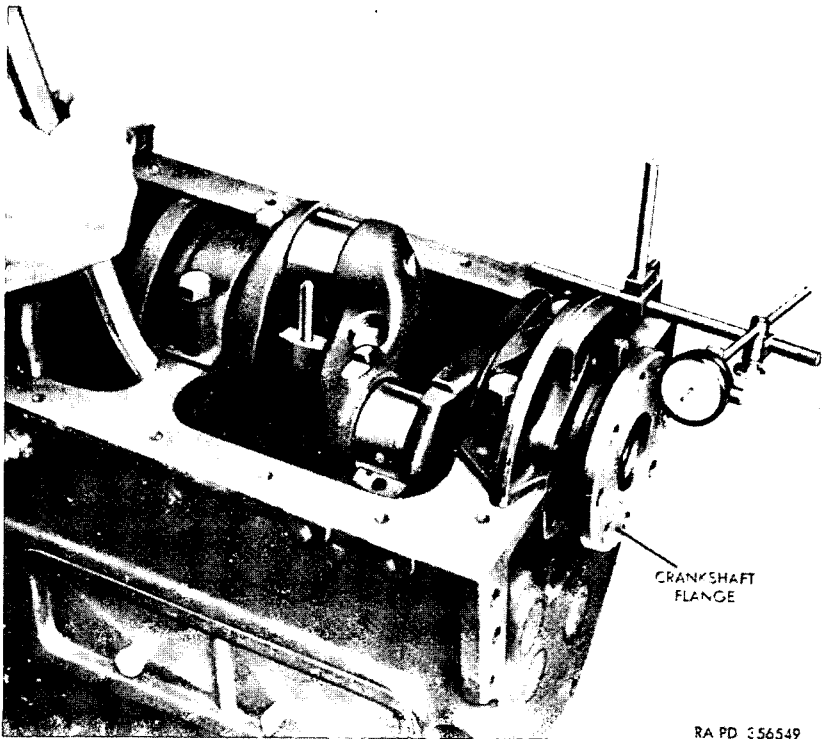

Figure 57. Checking crankshaft end play.
f. Checking Crankshaft End Play (fig. 57). The thrust of the crankshaft is taken by the rear main bearing, which also controls end play. Mount a dial gage so that it will rest against the crankshaft